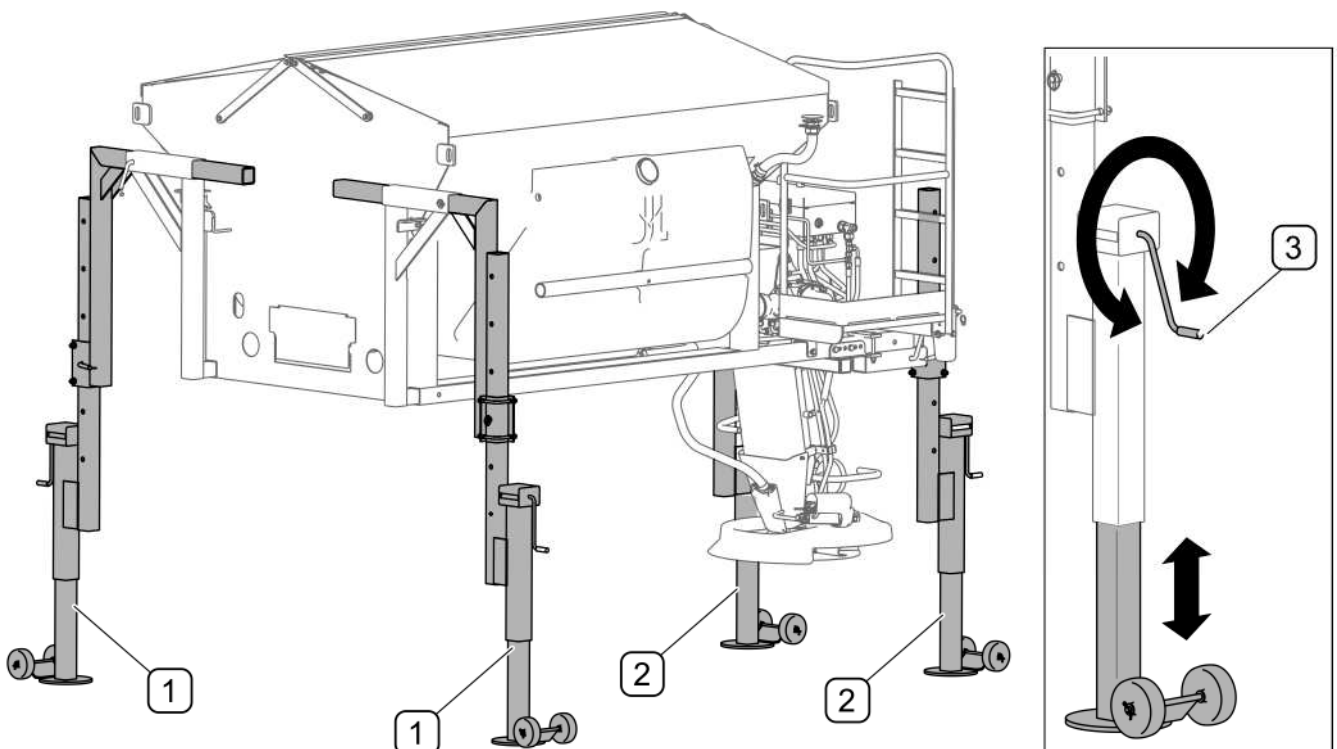

FIG. 4.1 Parking stands (option)
If the sand spreader is equipped with adjustable parking stands (FIG. 4.1), adjust the stands properly depending on the height of the carrying vehicle's load platform. Adjustments can be
- Lower the machine onto the carrying vehicle's load platform by rising successively the parking stands by means of height adjustment mechanism (3) (FIG. 4.1).